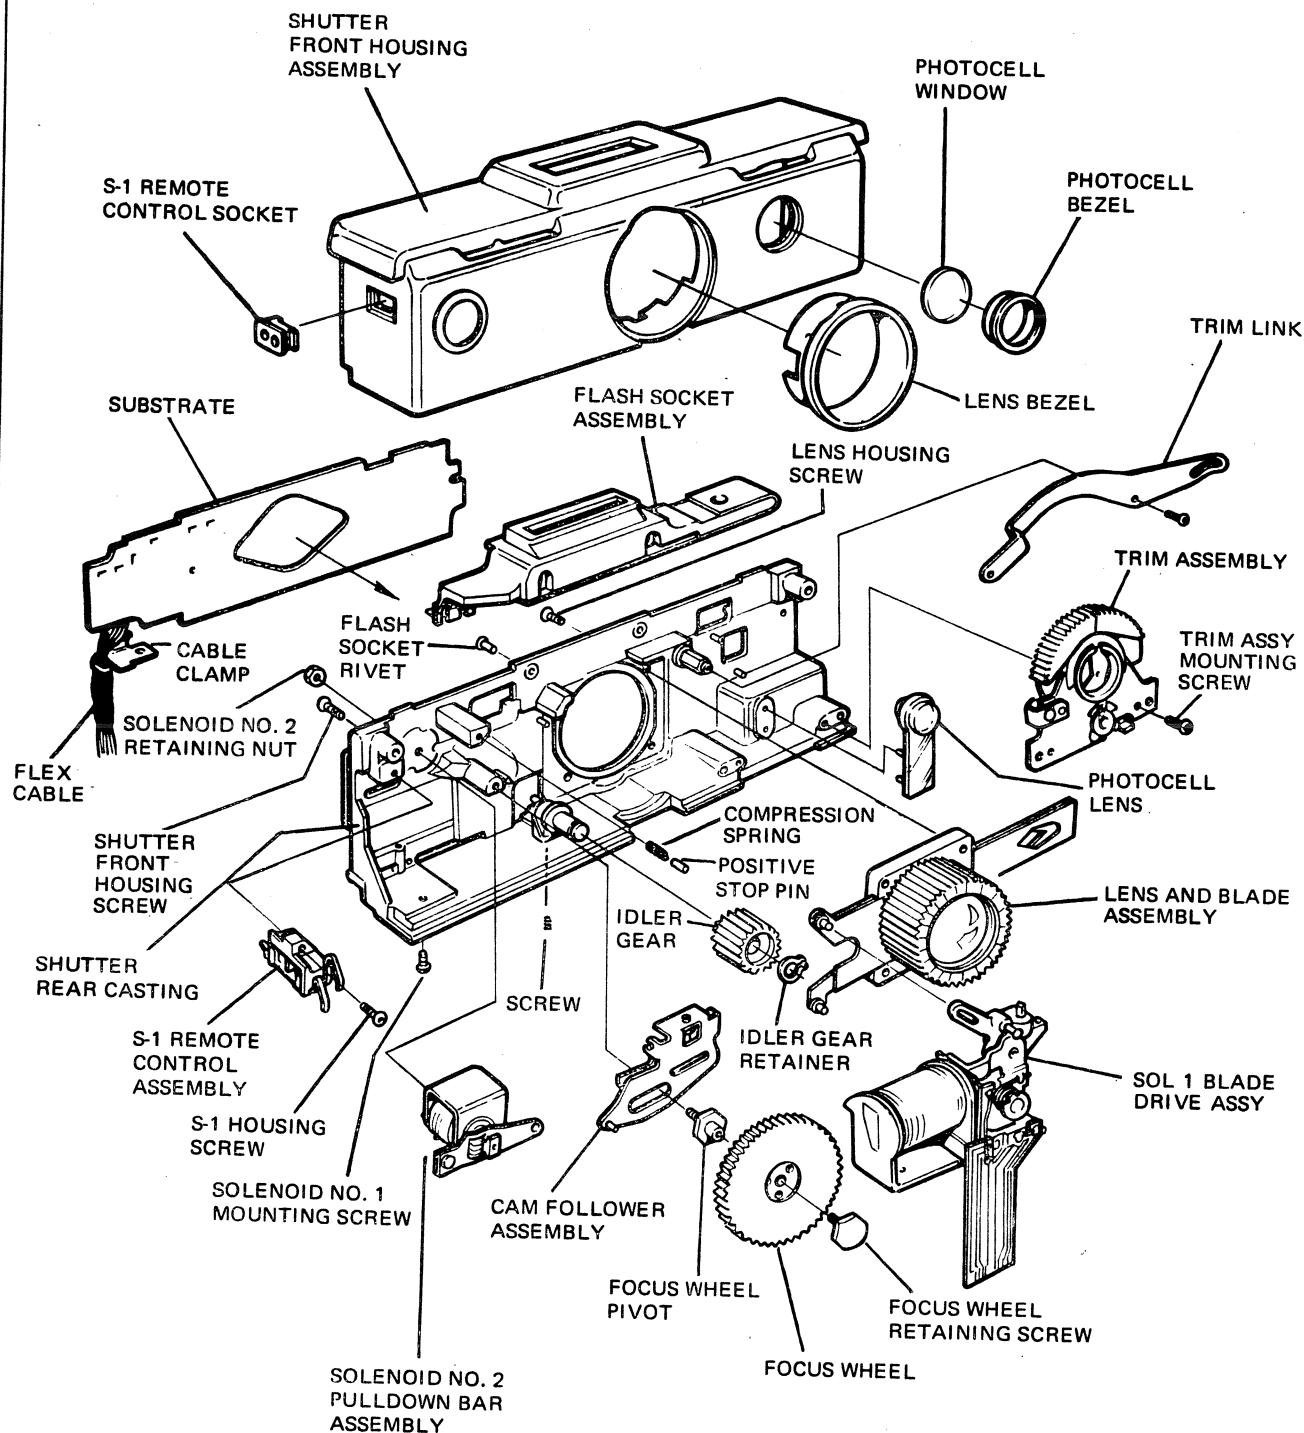

FIGURE 2-9 SHUTTER, EXPLODED VIEW
The foregoing paragraph describes the electrical inputs and outputs of the integrated circuits (substrate). The following paragraphs describe the manner in which the mechanical components of the shutter respond to either manual or electrical direction. See Figure 2-9.
1. When the operator prepares to take a picture, he first must aim and focus the camera. As he rotates the focus wheel to bring the Fresnel image into sharp focus, a cam molded into the rear surface of the focus wheel moves the component identified as the cam follower assembly on Figure 2-9. The trim link coupled to the trim assembly is also pinned to the cam follower in such a way that follower movement is directly influenced by the setting of the trim wheel. (The trim wheel is the lighten/darken control on the photocell.)